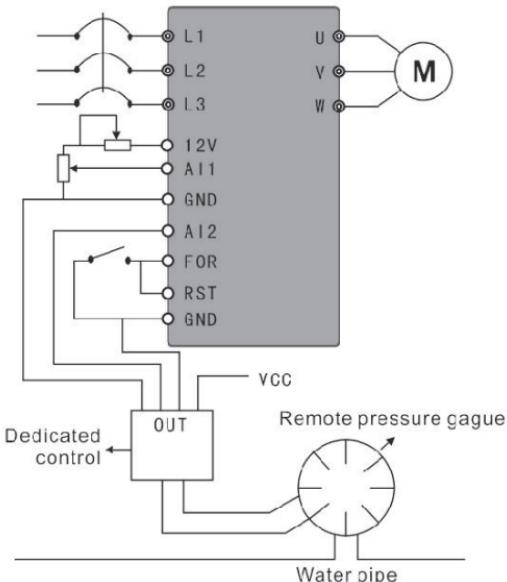

Figure F-6 Constant-pressure Water Supply – Remote Pressure Gauge
- (2) Use remote pressure gauge of 0-10kg; as required, use external terminal to control the operation and stop and set target value via potentiometer. As shown in Figure F-6.